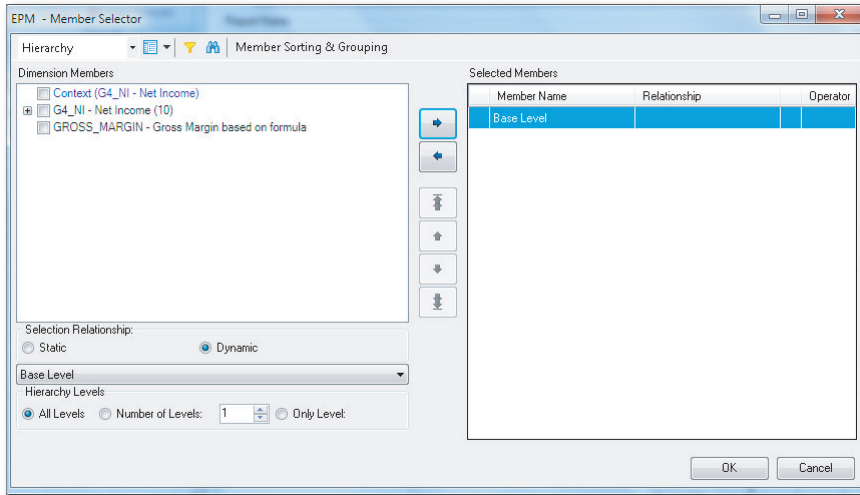
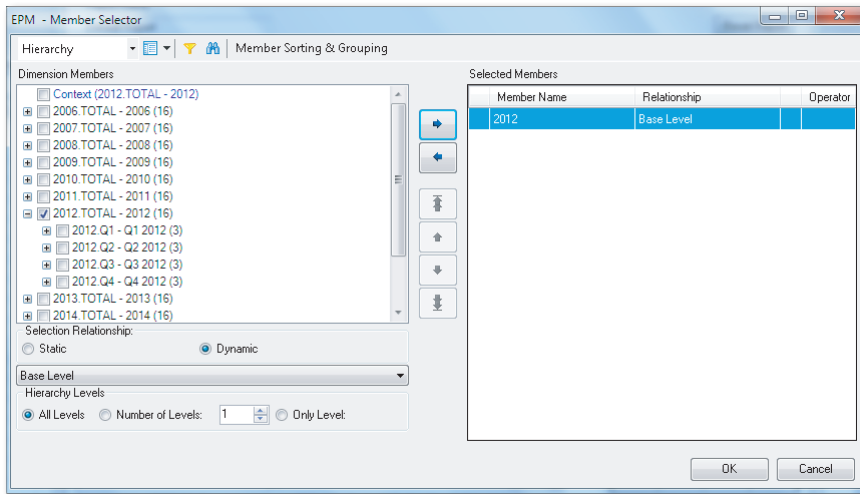

Figure 5.38 Creating an Input Form—Part A
Figure 5.39 Creating an Input Form—Part B
2. Select the ACCOUNT dimension in the row and the TIME dimension in the column. In the EPM – MEMBER SELECTOR dialog box, select NET INCOME in the DIMENSION MEMBERS list as the value for the ACCOUNT dimension, and select BASE LEVEL under SELECTION RELATIONSHIP. This will select only base members under the NET INCOME account (Figure 5.38). In the EPM – MEMBER SELECTOR dialog box, select 2012.TOTAL as the value for Time dimension and BASE LEVEL MEMBERS in SELECTION RELATIONSHIP (Figure 5.39).